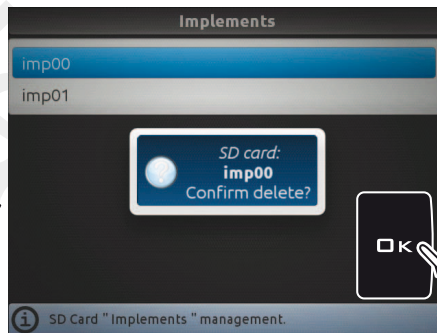

Fig. 282
- The message in Fig. 282 is displayed: confirm deletion by pressing **OK** again.